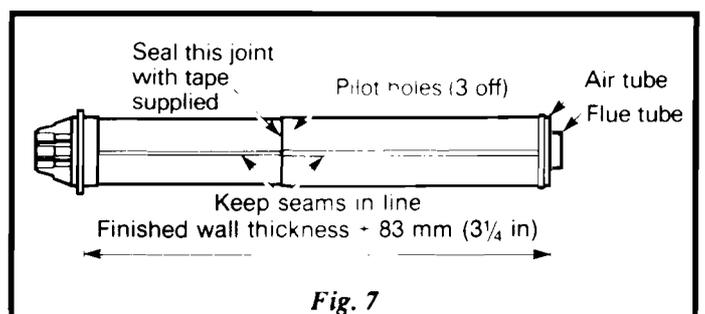

Fig. 7
14.5 Adjust the length of the flue/terminal assembly - see Fig. 7 (rear flue).
1. Using the measurement noted in section 14.2 adjust the length of the flue/terminal assembly so that it is: 83 mm (3¼ in) + finished wall thickness, from the back of the terminal flange to the end of the OUTER air tube as shown in Fig. 7.
2. Drill through the three pilot holes, shown in Fig. 7, with a 2.8 mm drill and secure the two tubes together using the three No.8 x 10 lg. screws supplied with the flue/terminal assembly. **Note:** When drilling through the outer air tube take care not to damage the inner flue tube with the drill.